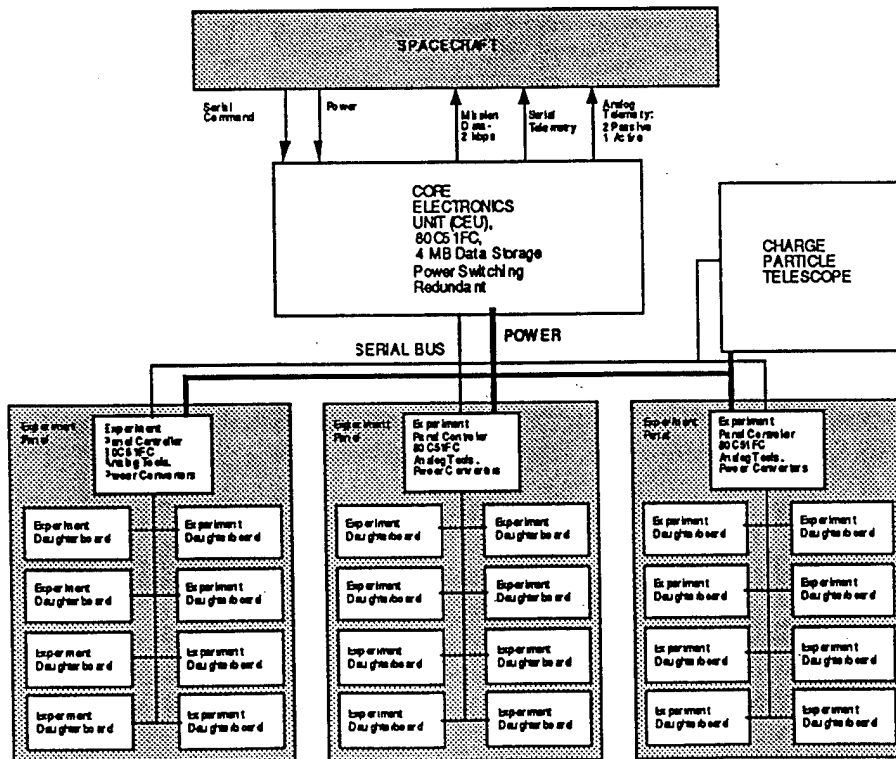

Figure 1 - MPTB Block Diagram
**1.3.1 MPTB Experiment Description.** MPTB consists of a redundant Core Electronics Unit (CEU), and three experiment panels, each up to eight daughterboard slots. A block diagram is shown in Figure 1.